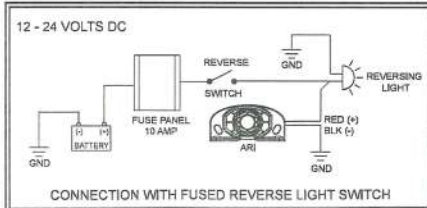

Figure 1
4. This product requires a reliable power and ground connection for operation. Complete the wiring according to the wiring diagram in Figure 1. Use 18 gauge wire (minimum) and observe correct polarity. **WARNING!!** Anytime the ARI is in operation, continuity must be maintained between the positive voltage of the power source and the positive terminal (red lead or front stud) of the ARI as well as between the negative terminal (black lead or rear stud) of the ARI and the common ground (the vehicle member to which all wire grounds are connected). During operation the voltage differential between the positive voltage of the power source and the positive terminal (+) of the ARI shall not exceed 150mV. During operation the voltage differential between the common ground and the negative terminal (-) of the ARI shall not exceed 150mV. Route the wire in a protected manner in accordance with vehicle manufacturer recommendations. **NOTE:** The ARI will not operate when its power connections are reversed, however it is protected against reversed polarity up to 800V.